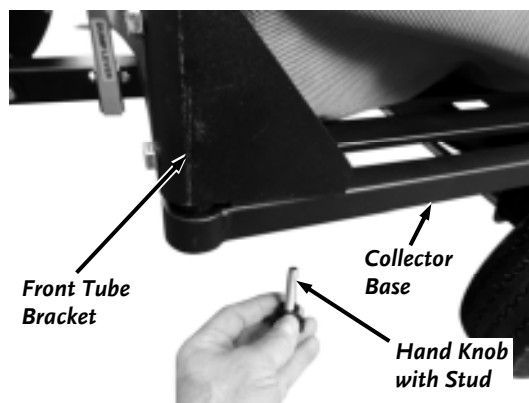

Figure 33
15. Secure the front Tube Brackets to the Collector Base with two Hand Knobs with Studs for each Bracket (**Figure 33**). Do not tighten fully.